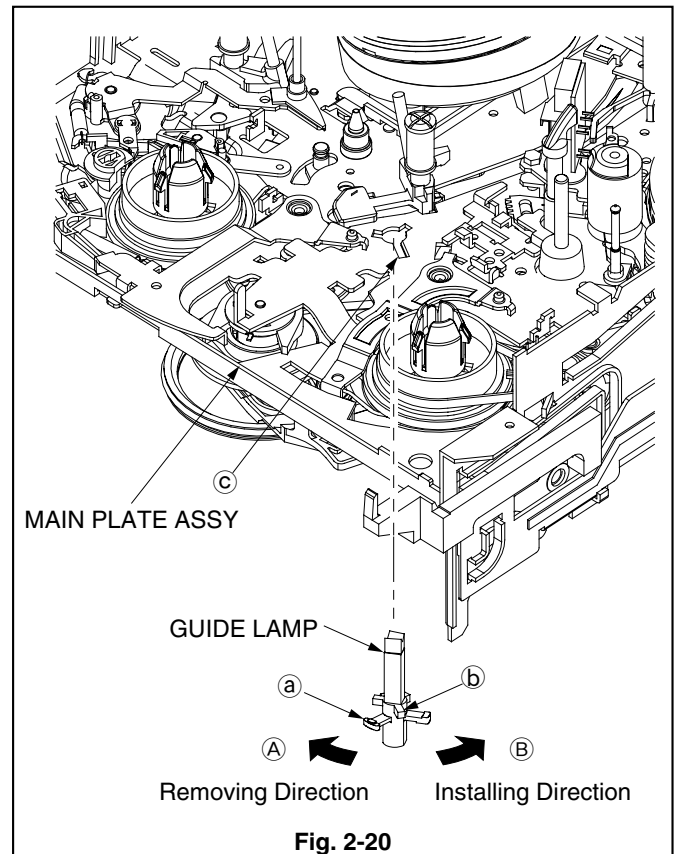

Fig. 2-20
1. Release the catch (Ⓐ) of the GUIDE LAMP shown in the Fig. 2-20.
2. Rotate the GUIDE LAMP in the direction shown by the arrow Ⓐ (counterclockwise, when viewed from the bottom) to match the longest slit (Ⓒ) of the MAIN PLATE ASSY with the longest arm (Ⓑ) of the GUIDE LAMP shown in the Fig. 2-20. Pull it out downward to remove it.
2. Insert the GUIDE LAMP in the Fig. 2-20, matching the longest arm (Ⓑ) of the GUIDE LAMP with the longest slit (Ⓒ) of the MAIN PLATE ASSY.
3. Rotate the GUIDE LAMP in the direction shown by the arrow Ⓑ (clockwise, when viewed from the bottom) to match the arm (Ⓐ) of the GUIDE LAMP shown in the Fig. 2-20 with the longest slit (Ⓒ) of the MAIN PLATE ASSY.